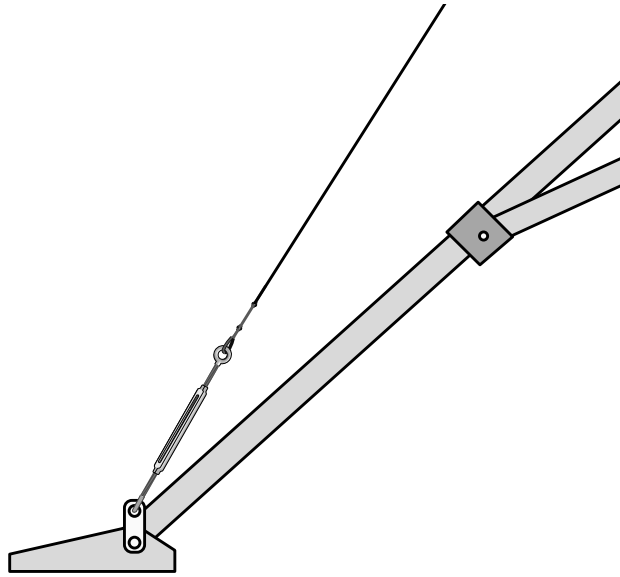

FIGURE 2-2. Extending the Tripod Legs
attaches to the foot (Figure 2-2), measure up 23” on the CM10, or 26” on the CM6, and mark each leg with a felt tip pen.
4. Each leg has a slide collar with a single bolt for loosening or tightening the collar (Figure 2-2). Loosen the bolt on each collar with a 1/2” wrench.